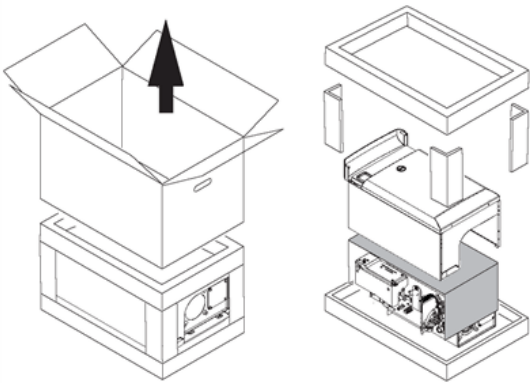

Fig. 22a
**10.2 Preparing The Boiler (Figs. 22a & 23)**